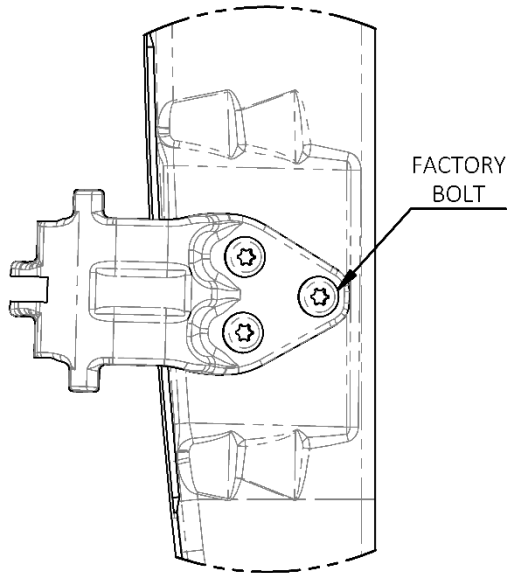

Figure 3: Lower Hinge
10. Remove the three factory bolts connecting the lower hinge to the door as seen in Figure 3. Keep the bolts to reinstall.